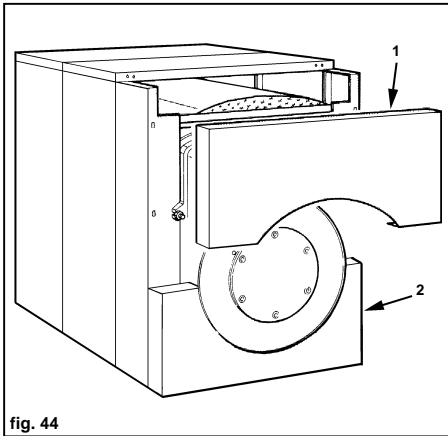

fig. 44
**30.** (fig. 44) Fit the top front panel "1" and the bottom one "2" in their housings by means of pins and springs.